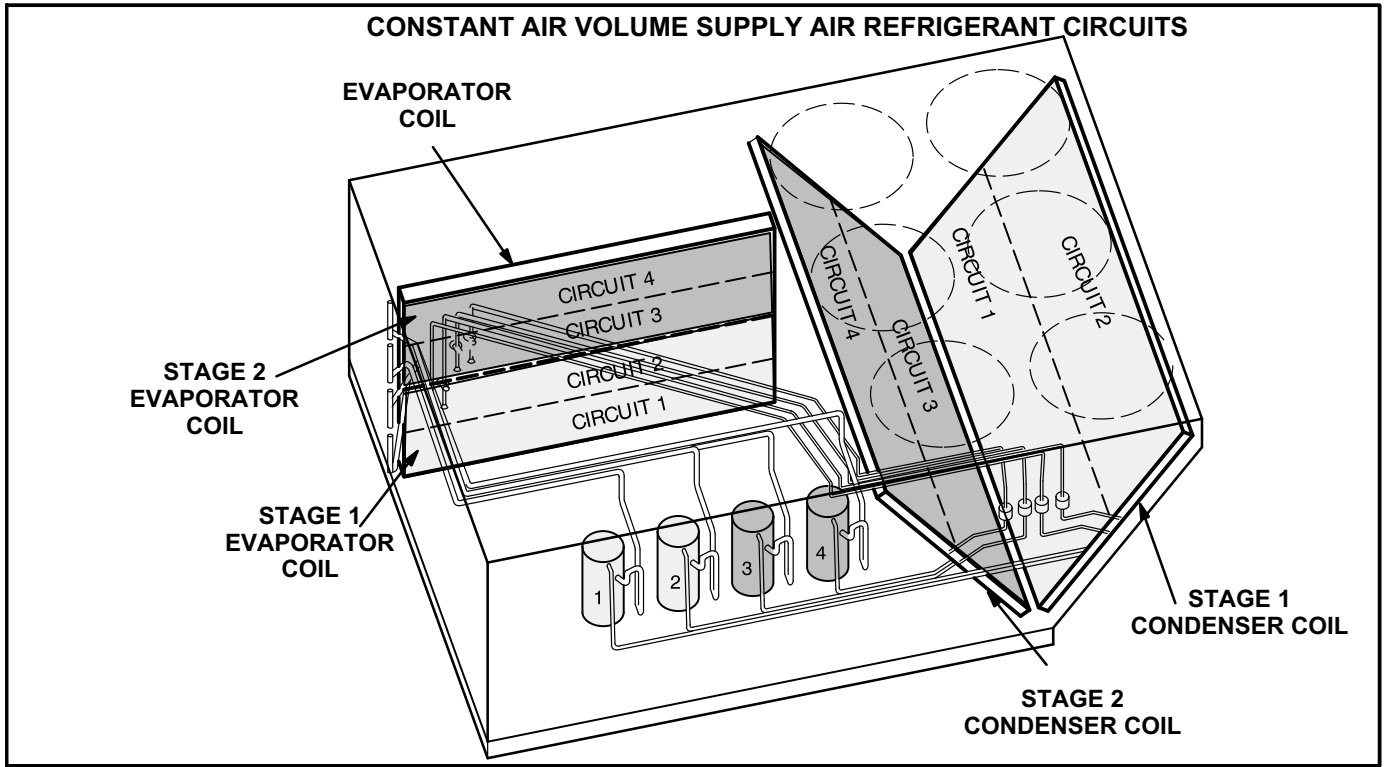

FIGURE 24
- 3- Units contain four refrigerant circuits or systems. Evaporator and condenser coil refrigerant circuits 1 and 2 make up stage 1 cooling. Evaporator and condenser refrigerant circuits 3 and 4 make up stage 2 cooling. See figure 24 or 25.